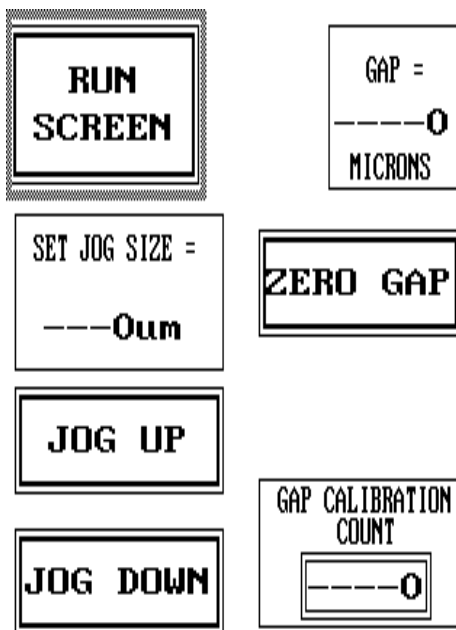

Figure 7-7a Gap Calibration Screen
- 2) After the leveling routine is complete, the wafer is at the user determined alignment gap. Press the CAL GAP button bring up the screen shown in Figure 7-7a.
- 9) To adjust the gap calibration, go back into the Gap Cal screen shown in figure 7-7a and adjust the GAP CALIBRATION COUNT by pressing on this button and changing the value. To bring the wafer closer to the mask, adjust the count down by 1 count.